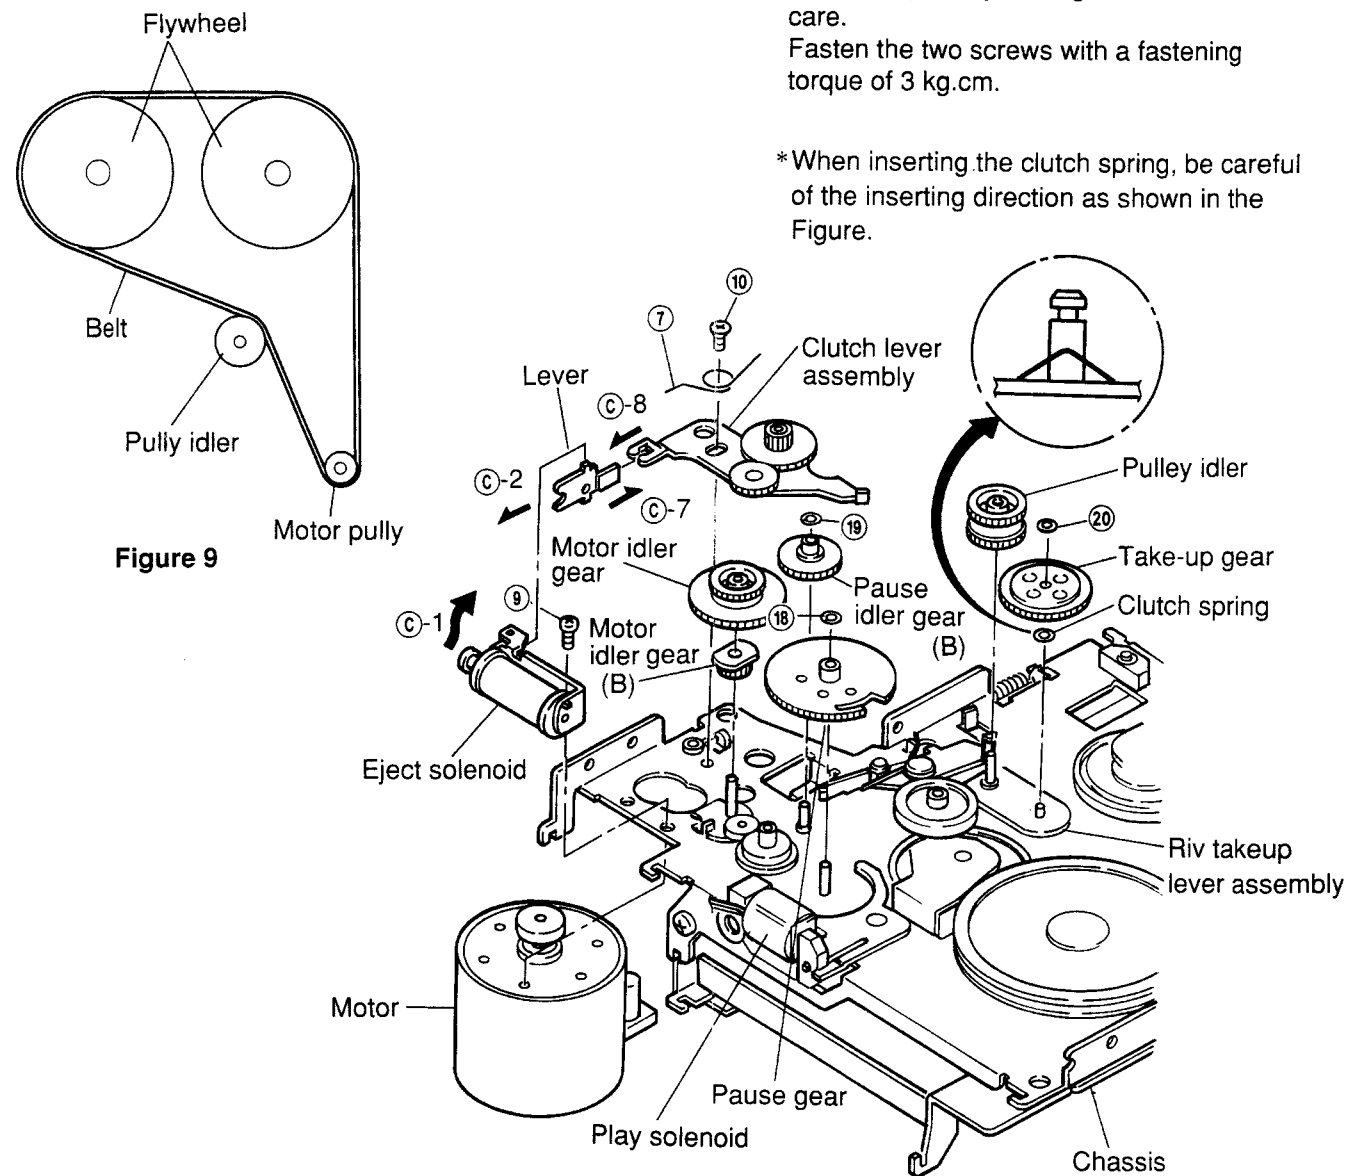
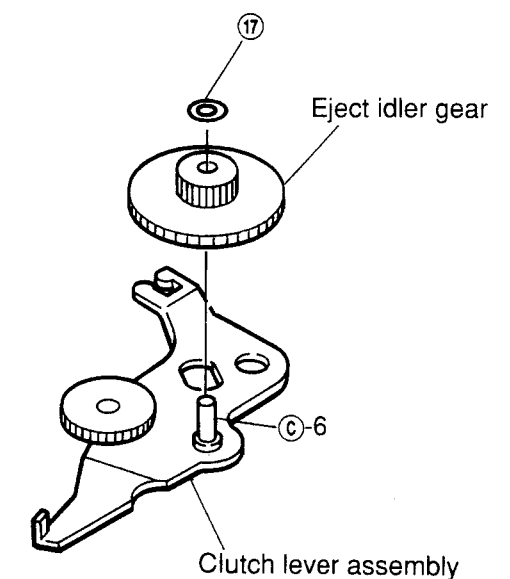

Figure 10
Figure 15
- (1) After removing the belt, remove spring ⑦ as shown in Figure 10.
- (3) Remove two screws ⑨ and ⑩, and remove the motor, taking care not to damage the motor idler gear. (Refer to Figure 10.)
- (4) Mount the new motor following the removal steps in the reverse order.
- (2) Remove screw ⑨ and remove the play solenoid as shown in Figure 10.
- (3) Align position C-1 of the new solenoid with position C-2 of the lever and fasten the screw as shown in Figure 10.
- (4) Lead the wire through the tube and solder it.
- (1) After removing the motor, remove the motor idler gear and the motor idler gear (B) and remove the clutch lever assembly as shown in Figure 10.
- (2) Remove M1.2 lock washer ⑰ and remove the eject idler gear as shown in Figure 15.
- (3) Mount the new gears and clutch lever following the removal steps in the reverse order.
Note: When mounting the gears to the lever, apply grease (FLOIL 425A) to the position ⑥ as shown in Figure 15. Align the position ⑦ with the position ⑧ and mount the clutch lever as shown in Figures 10 and 15.
- (1) Remove M1.2 lock washer ⑱ and remove the pause gear pulling it up from the stud of the chassis as shown in Figure 10.
- (2) Mount the new gear following the removal steps in the reverse order.
- (1) After removing the motor and the motor idler gear, remove M1.2 lock washer ⑲ and remove the gear by pulling it up from the stud of the chassis as shown in Figure 10.
- (2) Mount the new gear by following the removal steps in the reverse order.
- (1) After removing the belt and the pulley idler gear, remove M1.2 lock washer ⑳ by pulling it up from the stud of the riv take-up lever assembly as shown in Figure 10.
- (2) Remount the take-up gear following the removal steps in the reverse order.